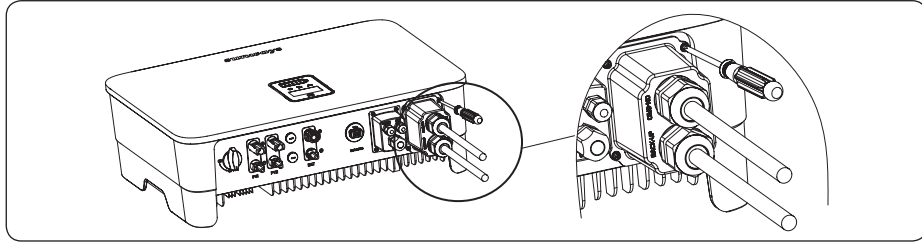

Figure 4-27
6) Lock the AC connector cover to the inverter with screws, as shown in Figure 4-27: